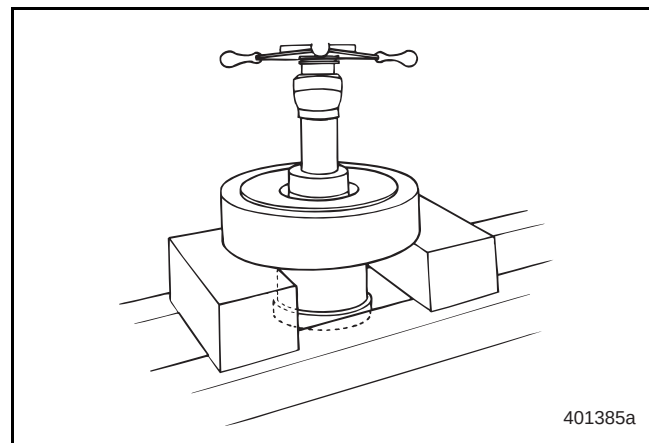

Figure 98 — Pressing Bearing off Outer Cam
9. If necessary, remove the outer cam bearing using a hydraulic press and the appropriate segment and adapter rings. Press the bearing off the outer cam as shown in Figure 98. Refer to the Special Tools Chart on page 130 for the correct segments and adapter rings.